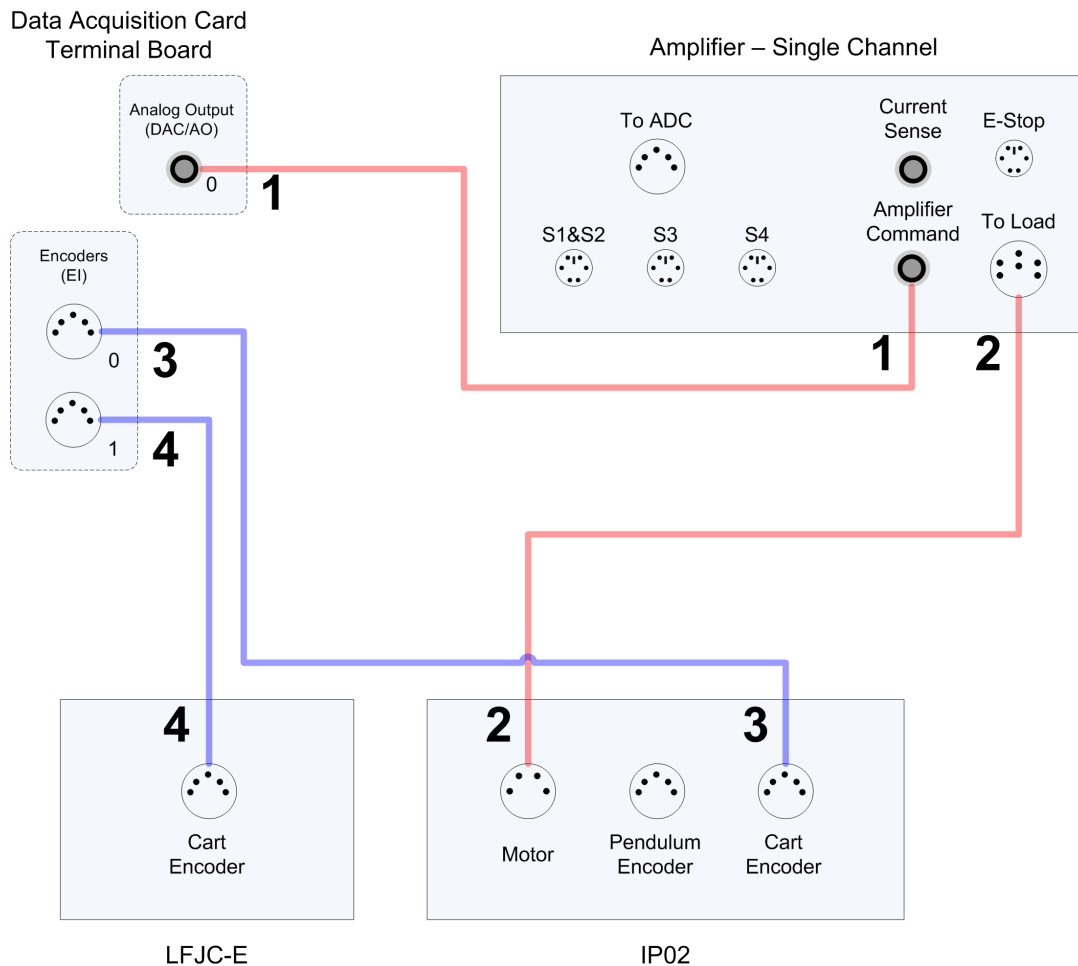

Figure 5.1: Connecting the LFJC module to a Single-Channel Amplifier and Two-Channel DAQ
This section describes the typical connections used to connect the LFJC plant to a data-acquisition board and a power amplifier. The connections are described in detail in the procedure below, summarized in Table 5.2, and pictured in Figure 5.1.
Note: The wiring diagram shown in Figure 5.1 is using a generic data acquisition device. The same connections can be applied for any data-acquisition system that has at least 1x analog output, and 2x encoder inputs.
3. Connect one end of the 2xRCA to 2xRCA cable from the Analog Output Channel #0 on the terminal board to the *Amplifier Command* connector on the amplifier, i.e. use both white or both red RCA connectors. See cable #1 shown in Figure 5.1. This carries the attenuated motor voltage control signal, V_m/K_a , where K_a is the amplifier gain.
4. Connect the 4-pin-stereo-DIN to 6-pin-stereo-DIN that is labeled from *To Load* on the amplifier to the *Motor* connector on the IP02. See connection #2 shown in Figure 5.1. The cable transmits the amplified voltage that is applied to the SRV02 motor and is denoted V_m .
5. Connect the 5-pin-stereo-DIN to 5-pin-stereo-DIN cable from the *Cart Encoder* connector on the IP02 panel to Encoder Input # 0 on the terminal board, as depicted by connection #3 in Figure 5.1. This carries the IP02 cart position measurement.
6. Connect the 5-pin-stereo-DIN to 5-pin-stereo-DIN cable from the *Cart Encoder* connector on the LFJC-E panel to Encoder Input # 1 on the terminal board, as depicted by connection #4 in Figure 5.1. This carries the LFJC cart position measurement.